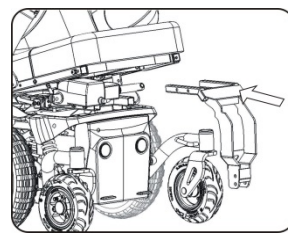

Figure 6-19
6.7.3.2 Remove the actuator and put it aside. (Figure 6-19)